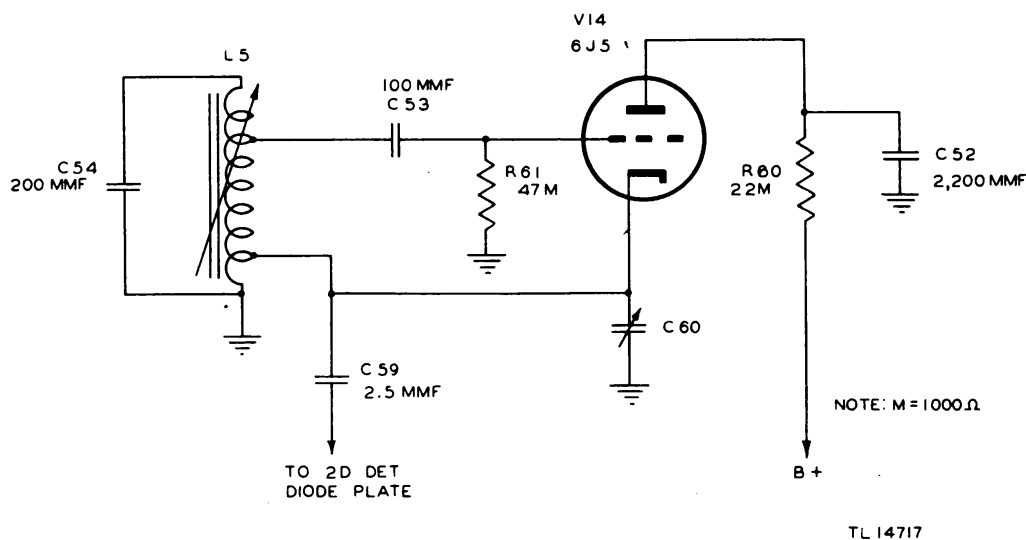

Figure 13. Radio Receiver BC-787-B, B-F-O schematic.
i. Beat-Frequency Oscillator (fig. 13). The beat-frequency oscillator generates a signal approximately 1,000 cycles higher than the i-f frequency. The BFO output is combined with the i-f signal at the second detector. A 1,000-cycle tone is produced to provide for reception of unmodulated signals. Tube V14, a type 6J5 triode, is used in a modified Hartley circuit. When plate voltage is applied, the grid and cathode are at equal potentials and plate current increases, resulting in a feedback voltage through capacitor C52 to the lower end of coil L5. As oscillations build up, the grid is driven positive and the voltage developed across grid resistor R61 charges capacitor C53. During negative half-cycles the grid capacitor tends to discharge through resistor R61. Capacitor C53 acquires an average negative charge on the grid side providing bias. As the triode is alternately driven to saturation and cut-off, oscillations are produced in the parallel resonant circuit at a frequency determined by coil L5 and capacitor C54. Variable capacitor C60 varies the oscillator frequency slightly, thus varying the pitch of the note to suit the operator. The oscillator output is applied through capacitor C59 to the second detector diode plate.